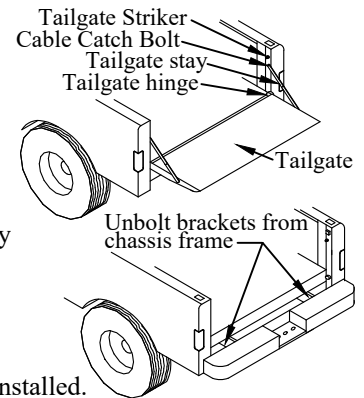

Figure 5: Remove Hardware.
1. **Remove** the tailgate and tailgate hardware (Figure 5).